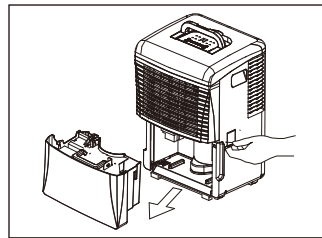

Fig.10
- Lift up the side flap located on the right side of the unit as looking from the front (Fig.10)